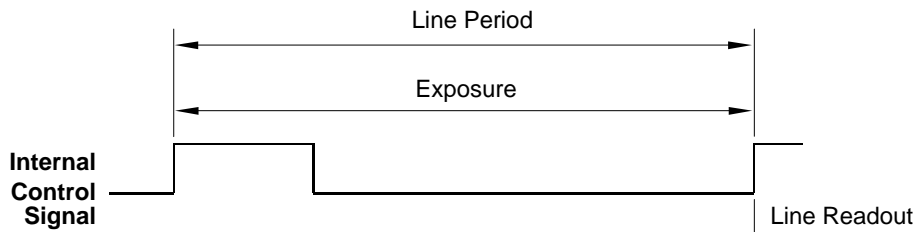

Fig. 54: Free Run, Edge Controlled Mode
- In **free run edge controlled** mode, line acquisition begins on the rising edge of the internal control signal. The pixels are exposed and charge is accumulated over the full line period (from rising edge to rising edge of the internal control signal). The falling edge of the control signal is irrelevant. The pixel values are read out of the sensor on the rising edge of the internal control signal as shown in Figure 54. The line period is determined by the setting for the line period parameter.